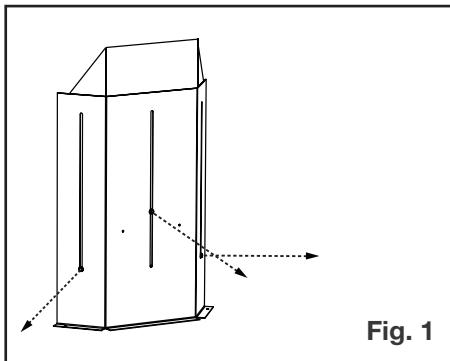

Fig. 1
1. Unscrew the fasteners on the vent shield assembly. DO NOT DISCARD FASTENERS (**Fig. 1**).